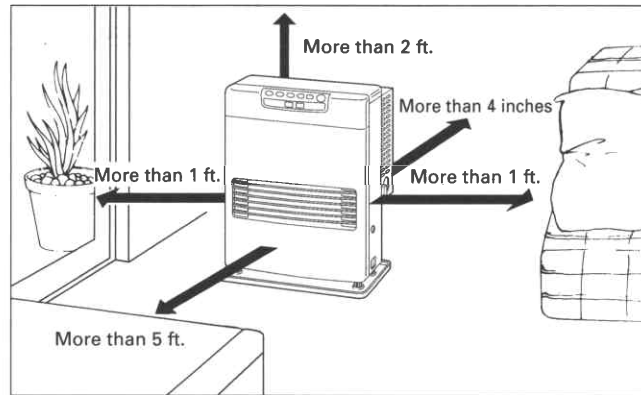

Fig. 1
When using the "Extension pipe (L)" extension kit, the distance between the heater exhaust pipe connection and the flue pipe connection must be at least 63-5/8 inch but no more than 80-1/2 inch. (See Figure 1 for reference.)
1. Select heater location. Allow clearances as indicated below between heater and all other materials. (See Fig. 1)